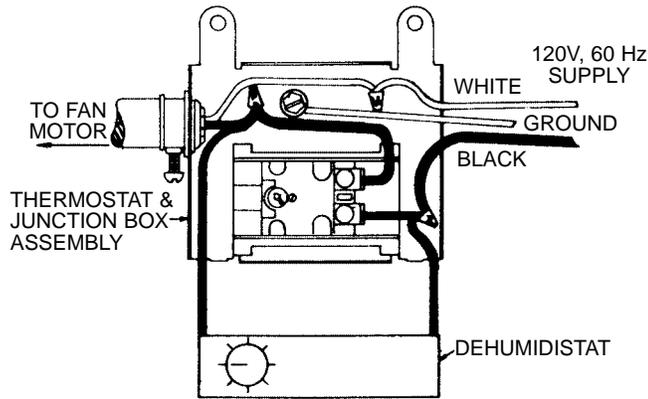

Figure 7 — Wiring Diagram for Dehumidistat
4. See Fig. 7 for wiring dehumidistat to ventilator.